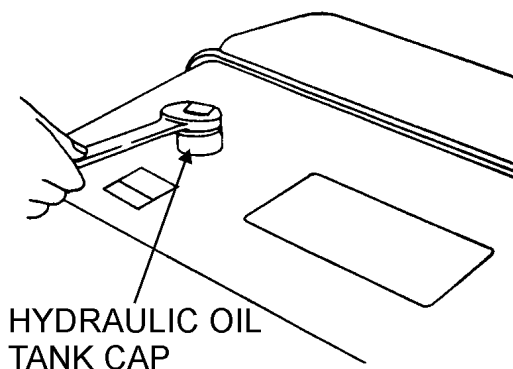

Figure 32. Hydraulic Oil Change
4. Open the tank cap (Figure 32) and fill tank with hydraulic oil. (Capacity: About 4.5 gallons). Use **Shell Tellus Oil #46** or equivalent.